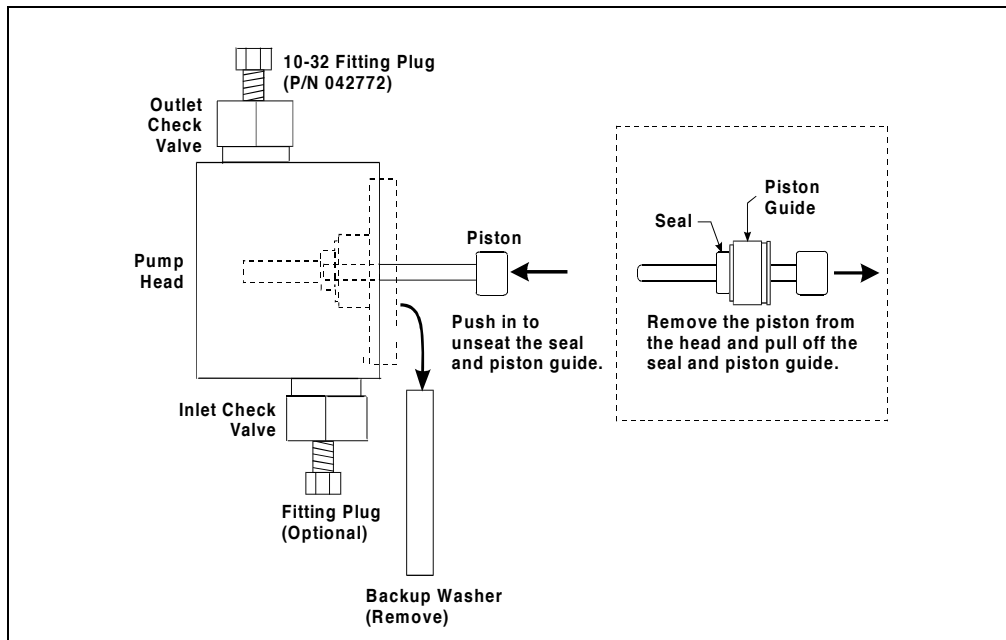

Figure 5-4. Removing the Piston Seal
- b. Reinsert the piston approximately 1/8-in into the seal (see Figure 5-4).